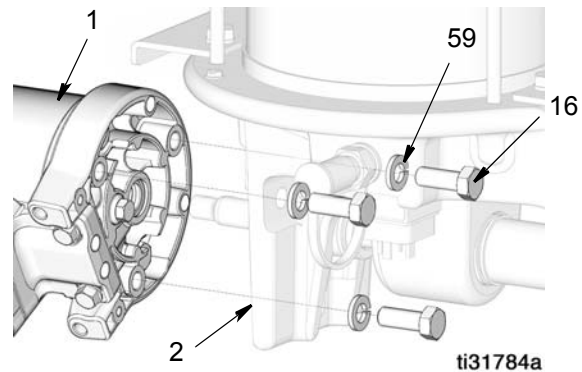

FIG. 15
5. Remove the three screws (16) and washers (59) holding air motor (1) to pump base (2). Remove air motor from pump base (FIG. 15).